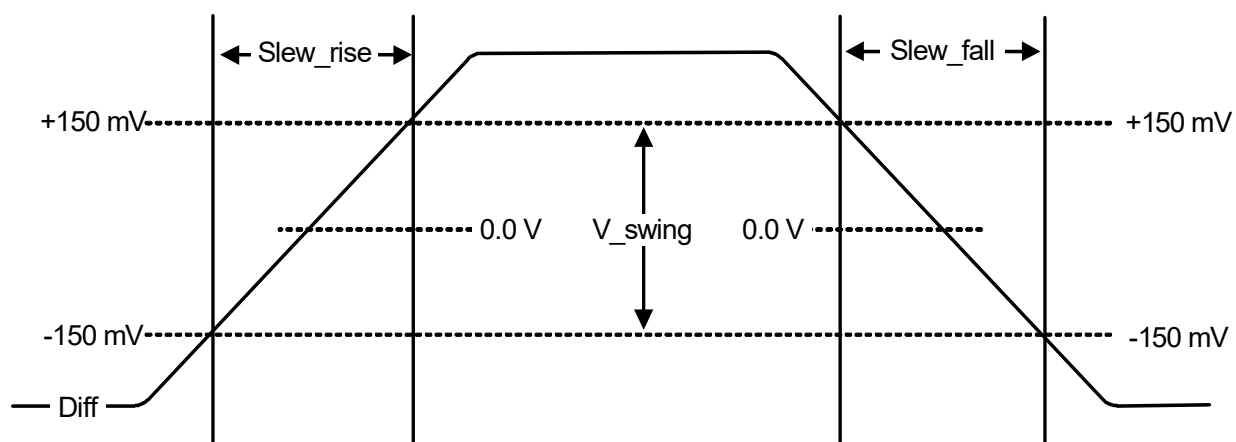

Figure 3. Measurement Points for Rise Time and Fall Time
17. Vcross(rel) Min and Max are derived using the following, Vcross(rel) Min = $0.250 + 0.5 (V_{havg} - 0.700)$, Vcross(rel) Max = $0.550 - 0.5 (0.700 - V_{havg})$, (see Figure 3–4 for further clarification).